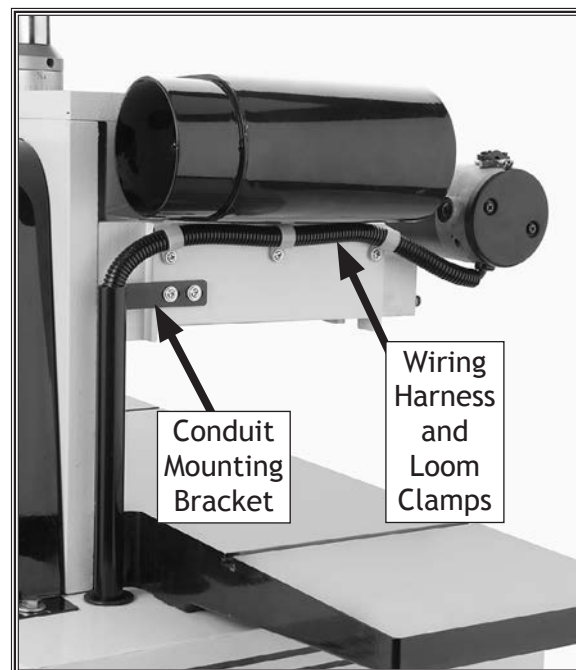

Figure 15. Conduit installation.
14. Fasten the conduit mounting bracket (see **Figure 15**) to the headstock with two $\frac{5}{16}$ "-18 x $\frac{3}{8}$ " flange screws.